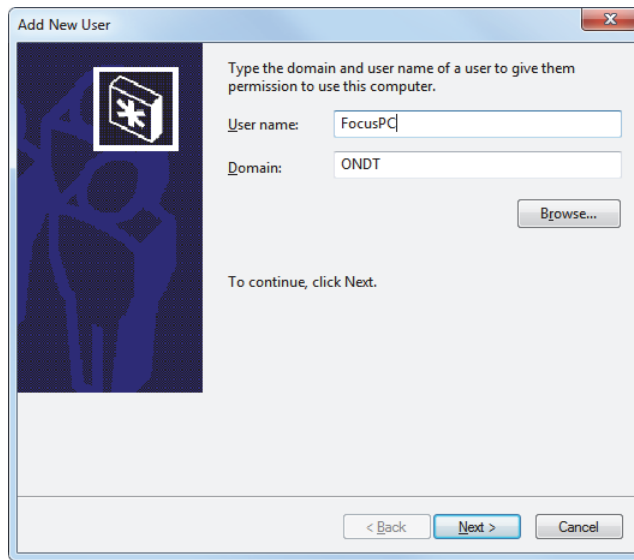

Figure 3-13 Adding a user (Windows 7 example)
2. In the **Add New User** dialog box, enter a user name in the **User name** box and a domain name in the **Domain** box, and then click **Next** (see Figure 3-13 on page 59).